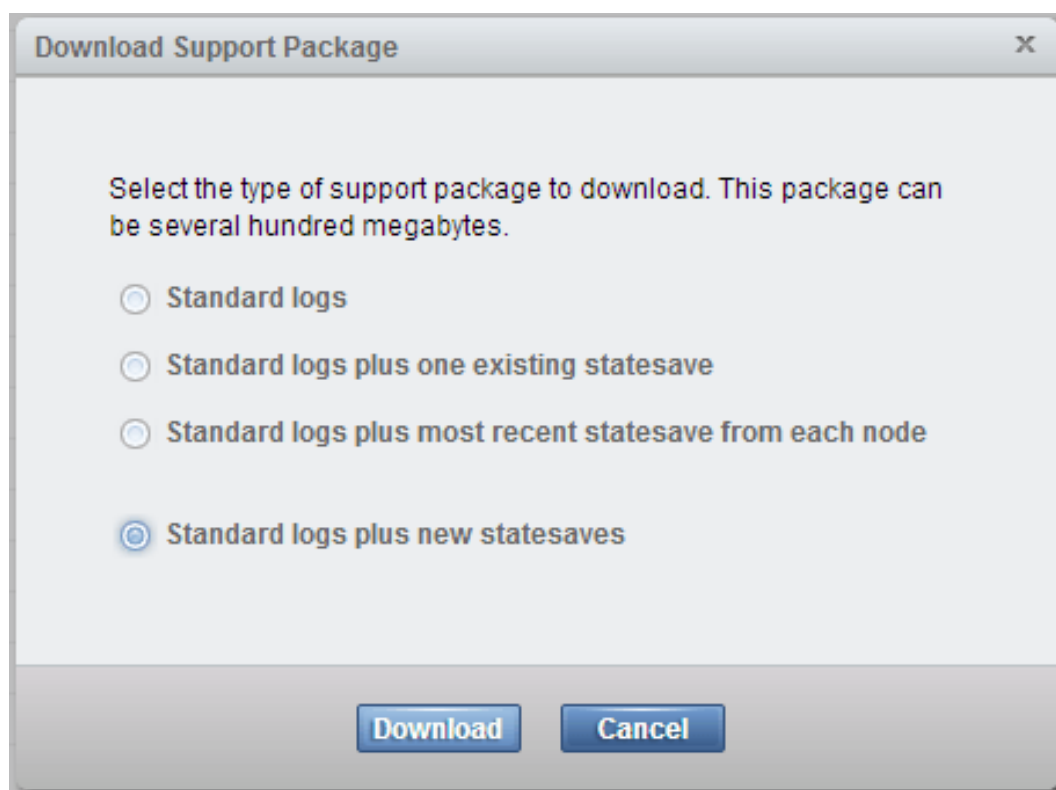

Figure 15-3 Download Support package window
2. In the Download Support Package window that opens (as shown in Figure 15-3), select the log types that you want to download. The following download types are available: